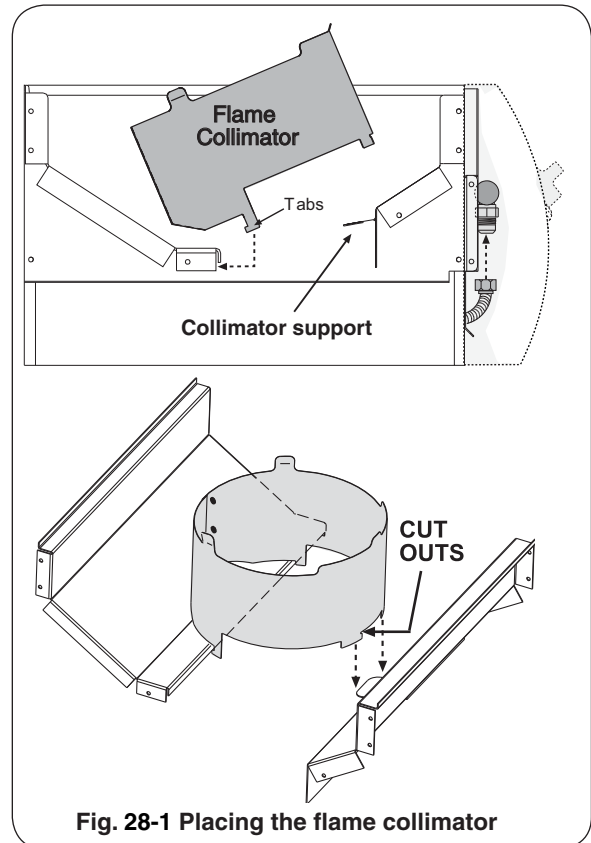

Fig. 28-1 Placing the flame collimator
1. Place the flame collimator over the burner with the tabs and cutouts resting on the inner shell, as shown in Fig. 28-1. Flex the front of the collimator towards the burner until the cutouts fit down around the collimator support. This will lock your collimator into place. The flame collimator acts as a barrier for windy conditions and creates higher BTU concentration to the support grid.
1. Remove the cover, cooking grid, and flame collimator. Compress the collimator front to back to release the front lock then rotate up as shown in Fig. 28-1.